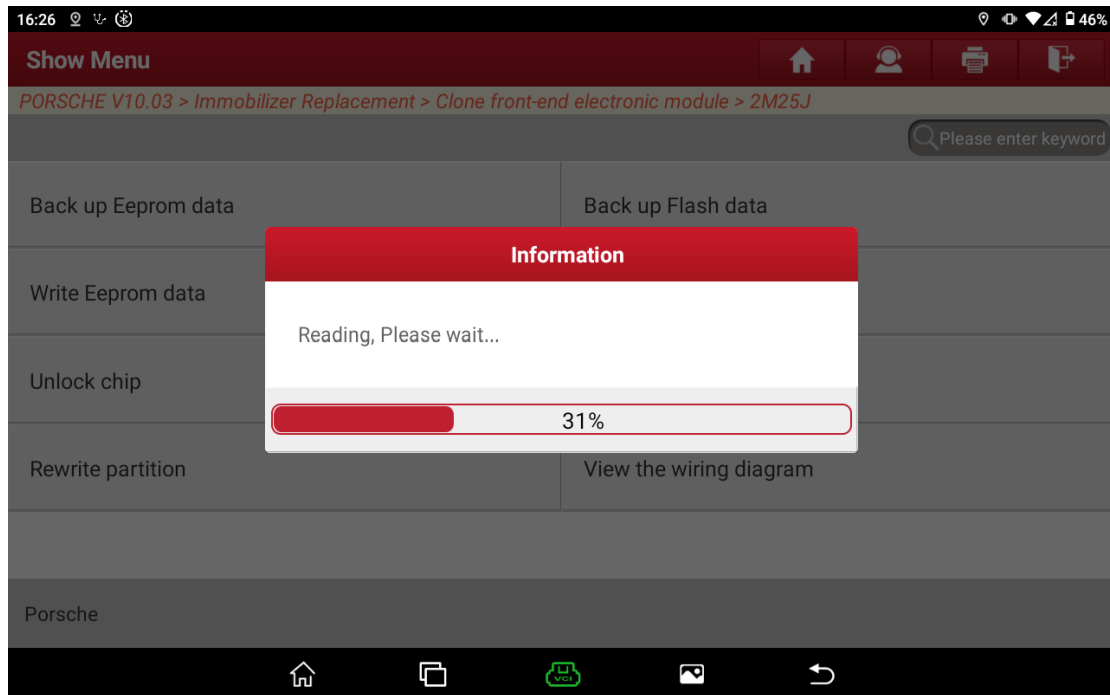

Figure 3
4. Choose [Back up Eeprom data], as shown in Figure 3.